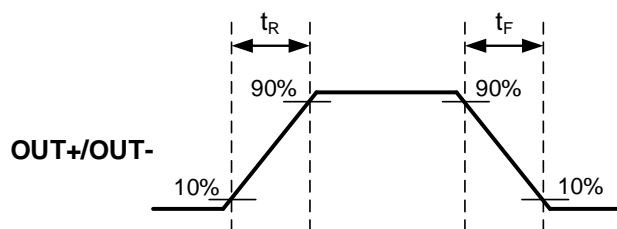
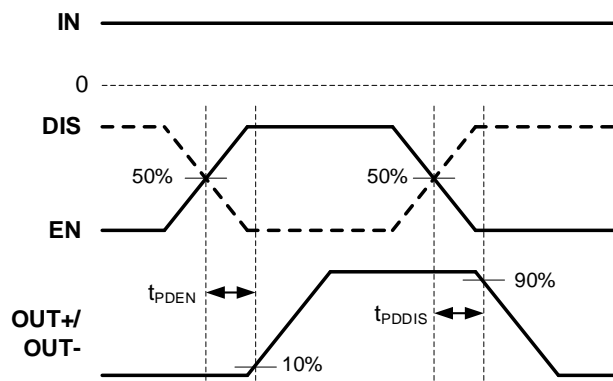

Figure 1: Output Rising and Falling Time
Figure 2: Enable/Disable Response Time
- For more details, see Figure 1, Figure 2, and Figure 3 on page 16, as well as Figure 4 on page 17.